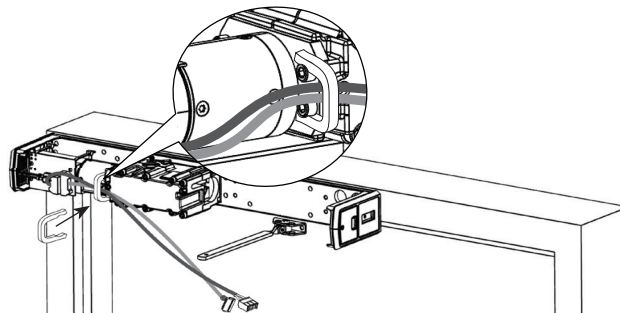

Figure 9
2. Using the supplied cable management clip, secure the cables along operator body. (Figure 9)